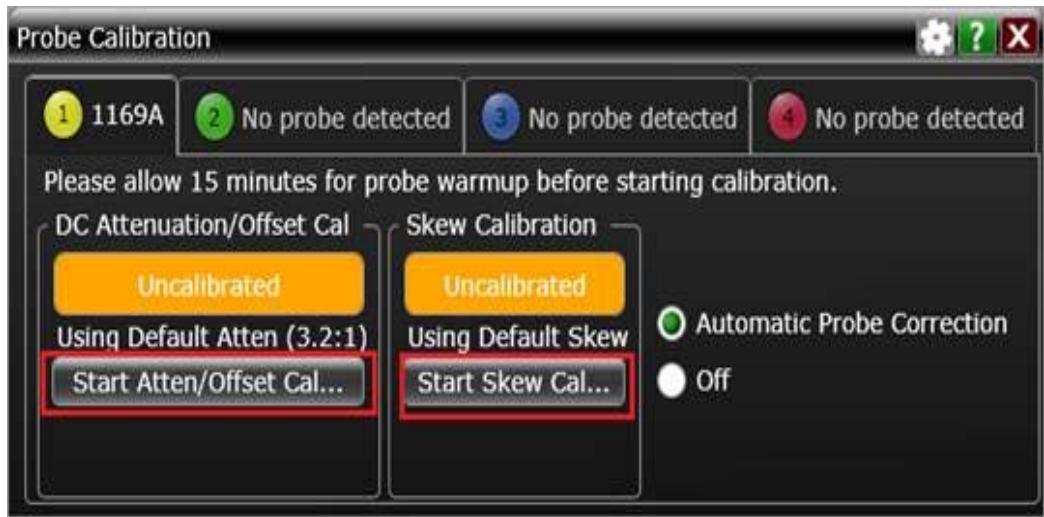

Figure 55 Probe Calibration dialog
- 4 In the **Probe Calibration** dialog box, click the **Start Atten/Offset Cal...** button in the **DC Attenuation/Offset Cal** area and follow the on-screen instructions for the vertical calibration procedure. Refer to Figure 55.
- 5 Once the vertical calibration has successfully completed, click the **Start Skew Cal...** button in the **Skew Calibration** area and follow the on-screen instructions for skew calibration. Refer to Figure 55.